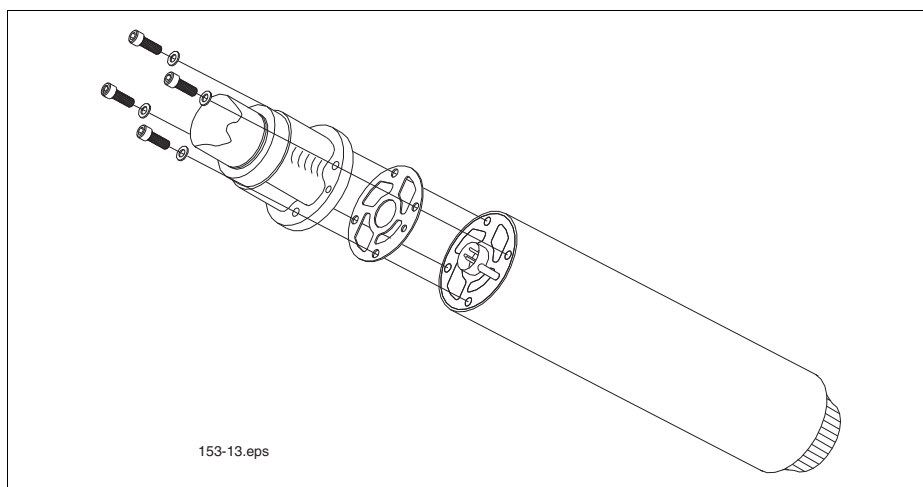

Figure 30. Replacing the gasket
4. Replace the old gasket with a new one provided. Place the new gasket on the new UMP so that all the holes align (see Figure 30).